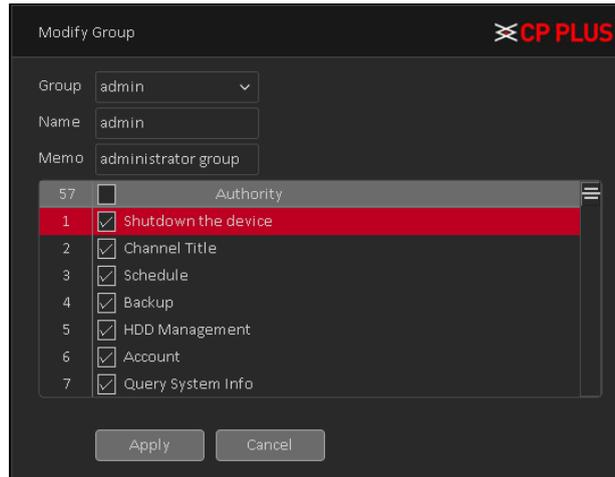

Figure 4.69
- **[Modify Group]** Group name has been added to modify the user group, notes and permissions. See Figure 4.69